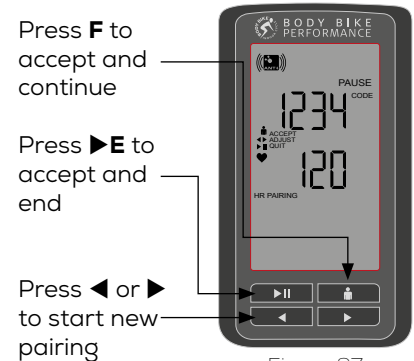

Figure 37
4) Lean forward to get your heart rate transmitter as close to the bottom of the console as possible. The display will run segments in 0 shapes until the code is registered. When the pairing is finished the display will look like figure 37. Press **F** to maintain this pairing and continue to next setting. Press **◀** or **▶** to start new pairing.